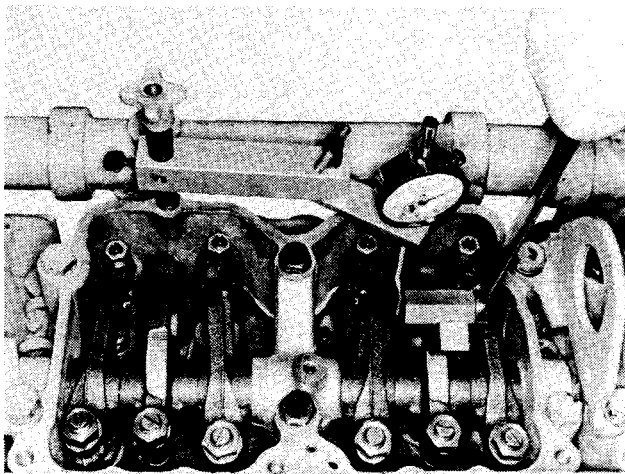

Fig. 14-57, (N114237). Bottoming injector plunger in cup
5. Using ST-1193 Rocker Lever Actuator (Fig. 14-57), or equivalent, bar lever toward injector until plunger is bottomed. Allow injector plunger to rise, bottom again, set indicator at zero